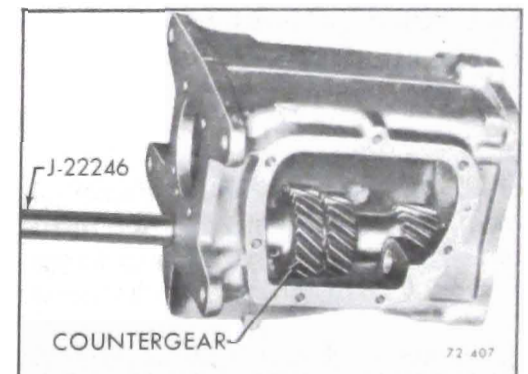

Figure 72-407 - Removing Countergear With Tool J-22246
15. From front of case, tap out countershaft, using countershaft alignment tool J-22246 as shown in Figure 72-407. Remove the counter-gear and both tanged washers.